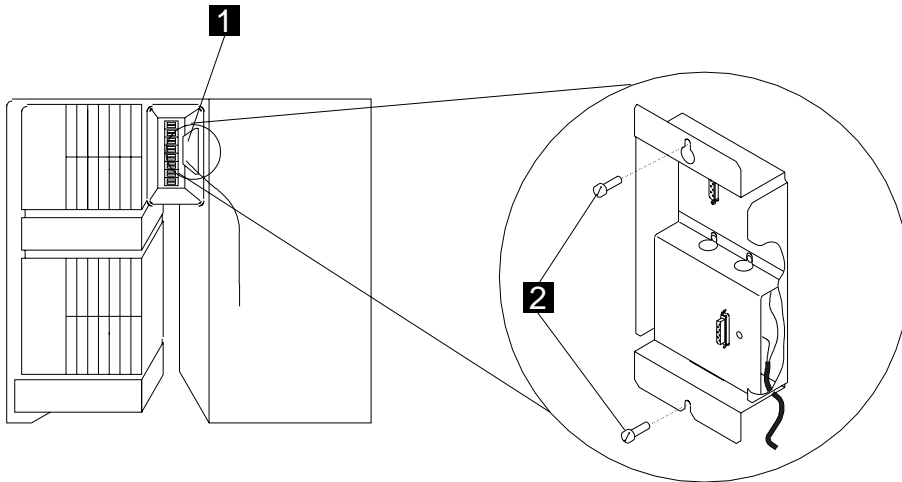

Figure 4-6. Console Tailgate of a 3745-X1A
- Step b. \_\_\_\_ Remove the console tailgate **1** from the 3745 frame by loosening the two screws **2** (see Figure 4-6 on page 4-9).
- Step e. \_\_\_\_ Install the bracket **3** on the console tailgate **1** using two screws **7** PN 1621191 (see Figure 4-6 on page 4-9).
- Step f. \_\_\_\_ Reinstall the console tailgate **1** on the 3745 frame, tighten the two screws **2** (see Figure 4-6 on page 4-9).
- Step g. \_\_\_\_ If removed in 1a, plug the customer cable into the connector **8** and the console cable into connector **6** (see Figure 4-6 on page 4-9).